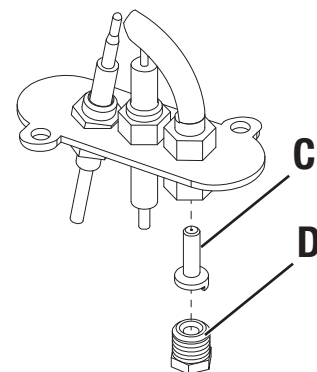

Fig.8.
3. Unscrew the nut "D" (Fig.8)
4. Remove the nozzle "C" (Fig.8) and replace it with the one for the type of gas chosen
5. Re-install the nut "D" (Fig.8)